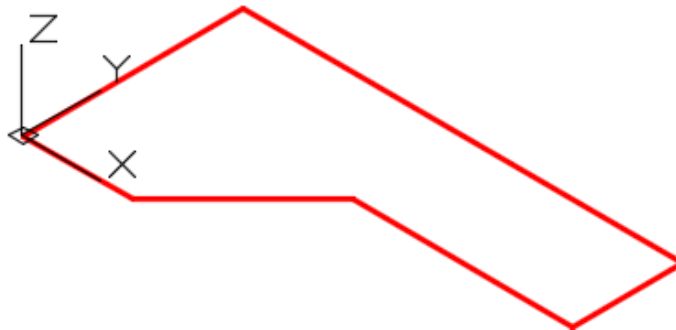

Figure Step 5
Step 5 Set layer: Model as the current layer. Enter the LINE command, as shown below, to draw the lines to start the construction of the model. (Figure Step 5)